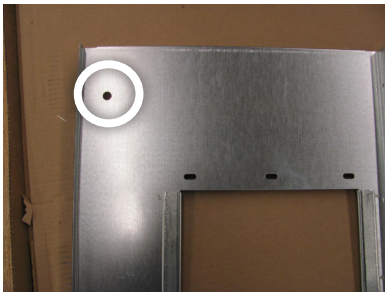

Fig. 6a
6. Drill hole in the center plate of the air handler, for the provided rubber grommet. (Figs. 6a, 6b)